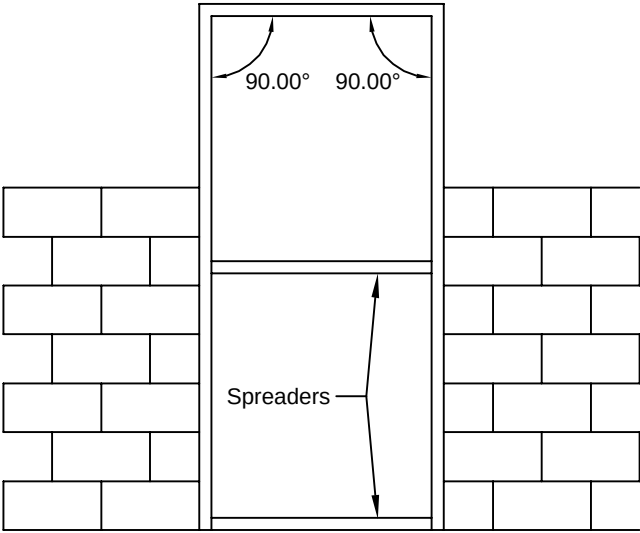

FIGURE 4
- 10. After frame is permanently built into the wall, with the anchors properly installed, remove the wood spreaders (see Figure 4).